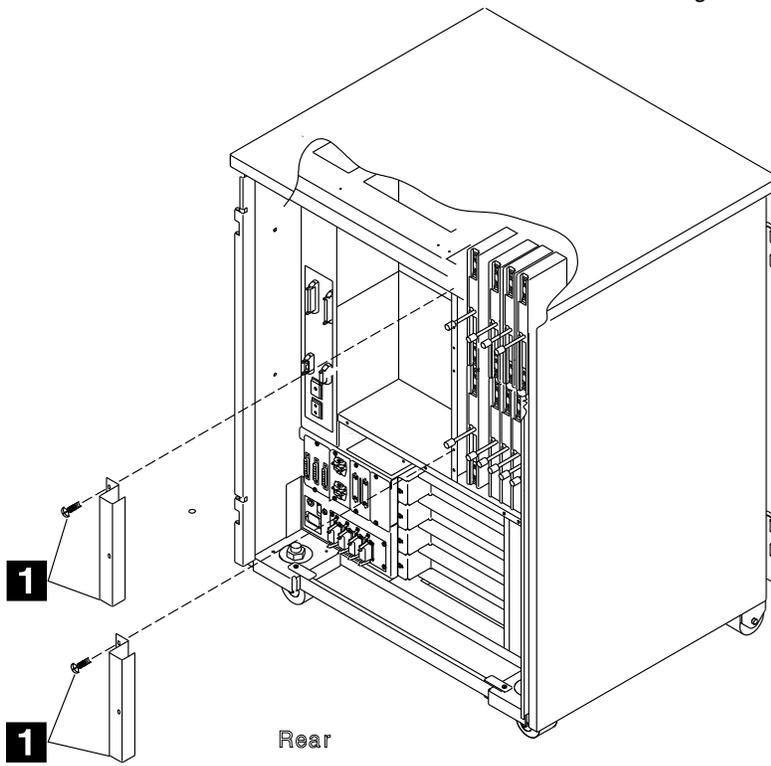

Figure 4-51. SMUX Cover
3. Remove one of the SMUX covers. Refer to Figure 4-51 (two screws must be removed **1**).
5. Re-install the SMUX cover with the 2 screws. Refer to Figure 4-51 on page 4-41.